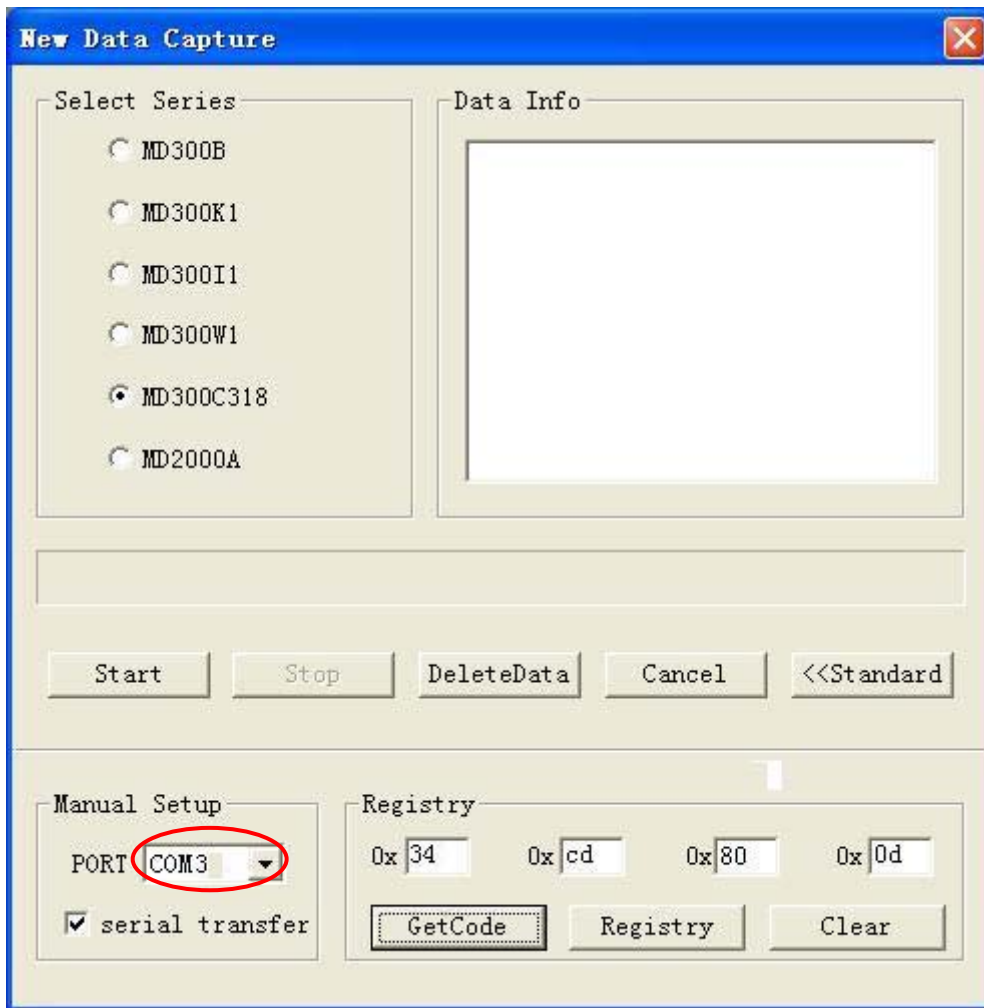

Figure 3-17
3.3.4 Select “COMx” of the “PORT” drop-down menu, (E.g. “COM3” in Figure 3-17). Then click “Start” to continue.